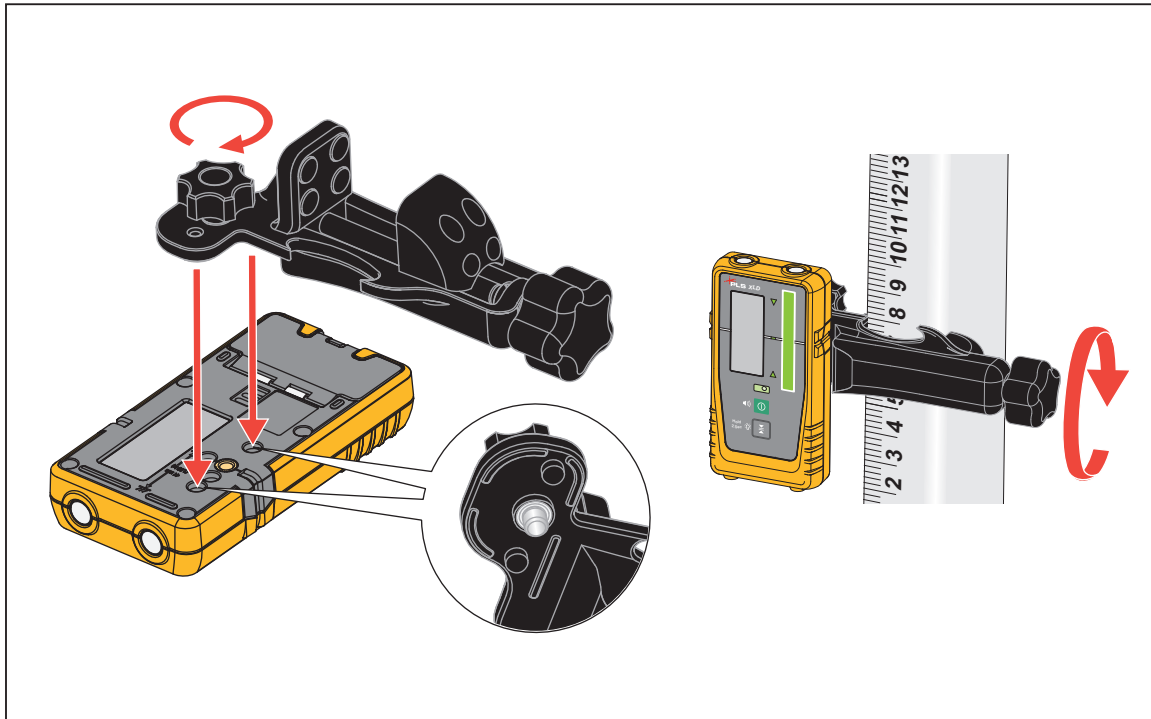

Figure 1. Rod Clamp Attachment
Figure 1 shows how to connect the rod clamp to the Detector and a grade rod, measuring rod, or staff.
2. Connect the rod clamp to the Detector and a grade rod, measuring rod, or staff. See Figure 1.